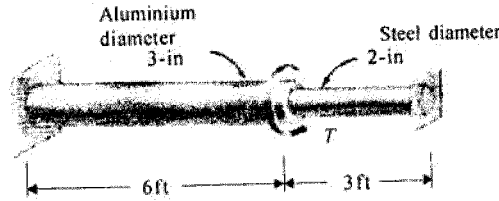

Fig. 4d
- d) The shaft in fig.4d consists of a 3-in-diameter aluminum segment that is rigidly joined to a 2-in-diameter steel segment. The ends of the shaft are attached to rigid supports. Calculate the maximum shear stress developed in each segment when the torque = 10 kip. In is applied. Use $G_{Al} = 4 \times 10^6$ psi and $G_S = 12 \times 10^6$ psi.